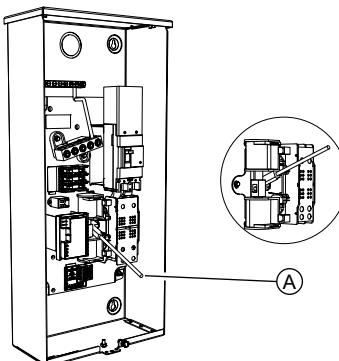

Figure 3-10. Typical Manual Transfer Switch Operation
4. See **Figure 3-10**. Use manual transfer handle (A) inside transfer switch to move main contacts to STANDBY (loads connected to standby power source).